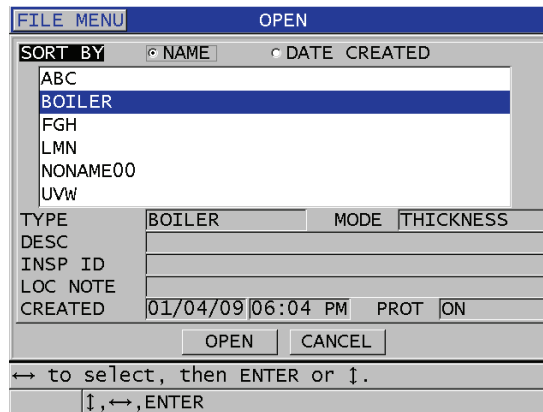

Figure 11-16 Opening a file
3. In the **OPEN** screen (see Figure 11-16 on page 182):